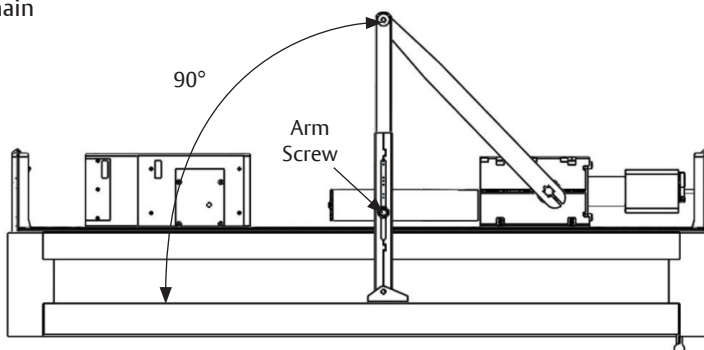

Figure 14 View: Looking up from floor
3. With door fully closed, rotate main arm toward latch edge of door until arm tube is at 90° angle (perpendicular) to door. (Figure 14)
4. Use arm screw provided with main arm to secure rod to tube. (Figure 14)